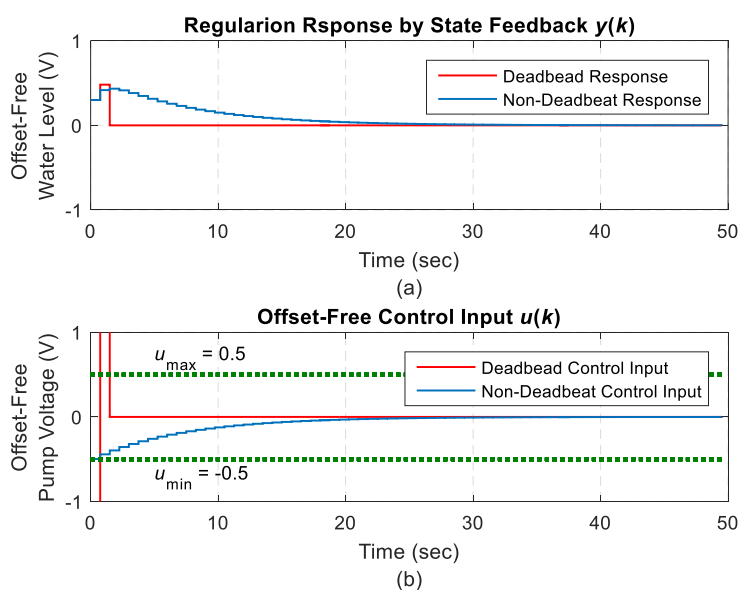

Fig. 1. Initial condition responses and control inputs, (a) Output responses, (b) Control input signals.
- c. Simulate the two closed-loop control systems, and plot the outputs (initial condition responses) and control inputs. For example, the results of deadbeat control and non-deadbeat control for the model obtained from `SysIdenData_StudentVersion.mat` data (Lab 1) are shown in Fig. 1 with the closed-loop eigenvalues $[0.4 \ 0.9]$ for non-deadbeat control and canonical observable form of the state space model. You can see that deadbeat control input in Fig. 1(b) is way over the control input limit of $\pm 0.5V$. You can use `initial` or `lsim` functions to simulate the closed-loop systems in MATLAB, or alternatively, you can use Simulink (0.3 marks).